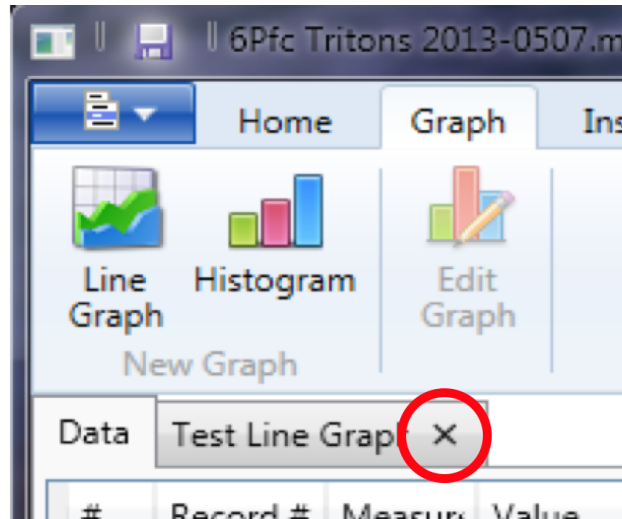

Figure 61
- 5) Click the "X" at the left of the Graph Tab to delete the graph (Figure 61).